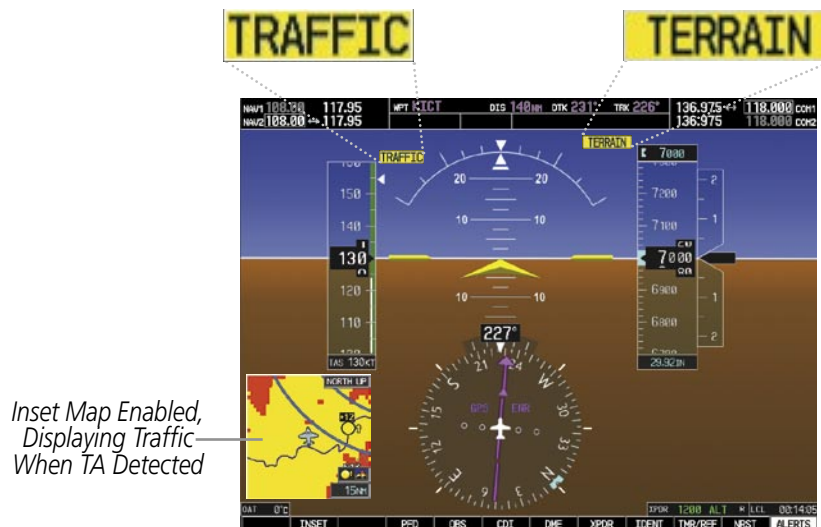

Figure 2-39 Traffic and Example TAWS Annunciations
- A flashing black-on-yellow 'TRAFFIC' annunciation (Figure 2-39) appears to the top left of the Attitude Indicator for five seconds and remains displayed until no TAs are detected in the area